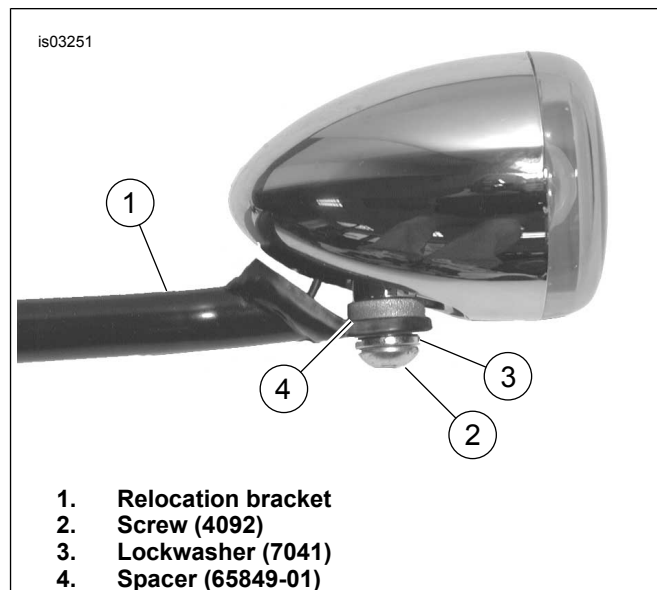

Figure 8. Install 2-3/8 Inch Turn Signals
- See Figure 8. Apply Loctite 243 (blue) to threads of screw.
- Install turn signal to relocation bracket (1) using screw (2), lockwasher (3), and spacer (4). Spacer should be installed between lamp and relocation bracket.